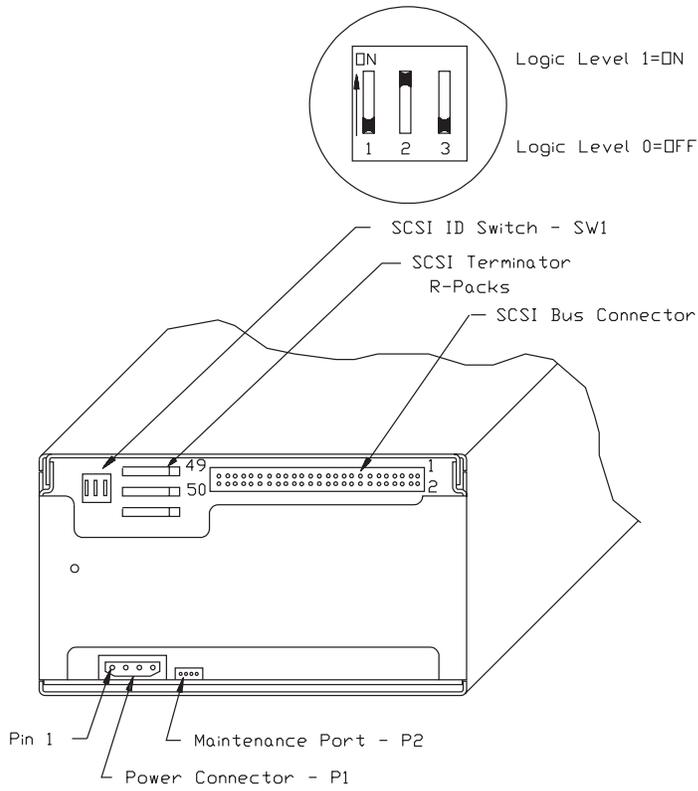
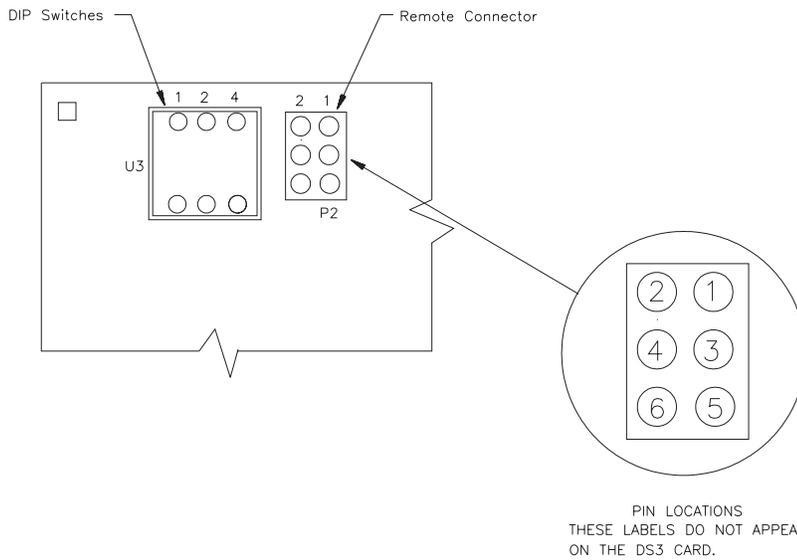

Figure 2-1
Figure 2-2
3. If you have a DB or DS card, locate the SCSI ID DIP switches on the back of the EXB-8200 as shown in Figure 2-1. Depending on the version of the DB or DS card you have, the back of the EXB-8200 may look slightly different; however, the SCSI ID switches are in the same location. Note that some DS cards include both DIP switches and a remote connector as shown in Figure 2-2. If you have one of these cards, you can use the DIP switches, a remote switch, or jumpers to set the SCSI ID.